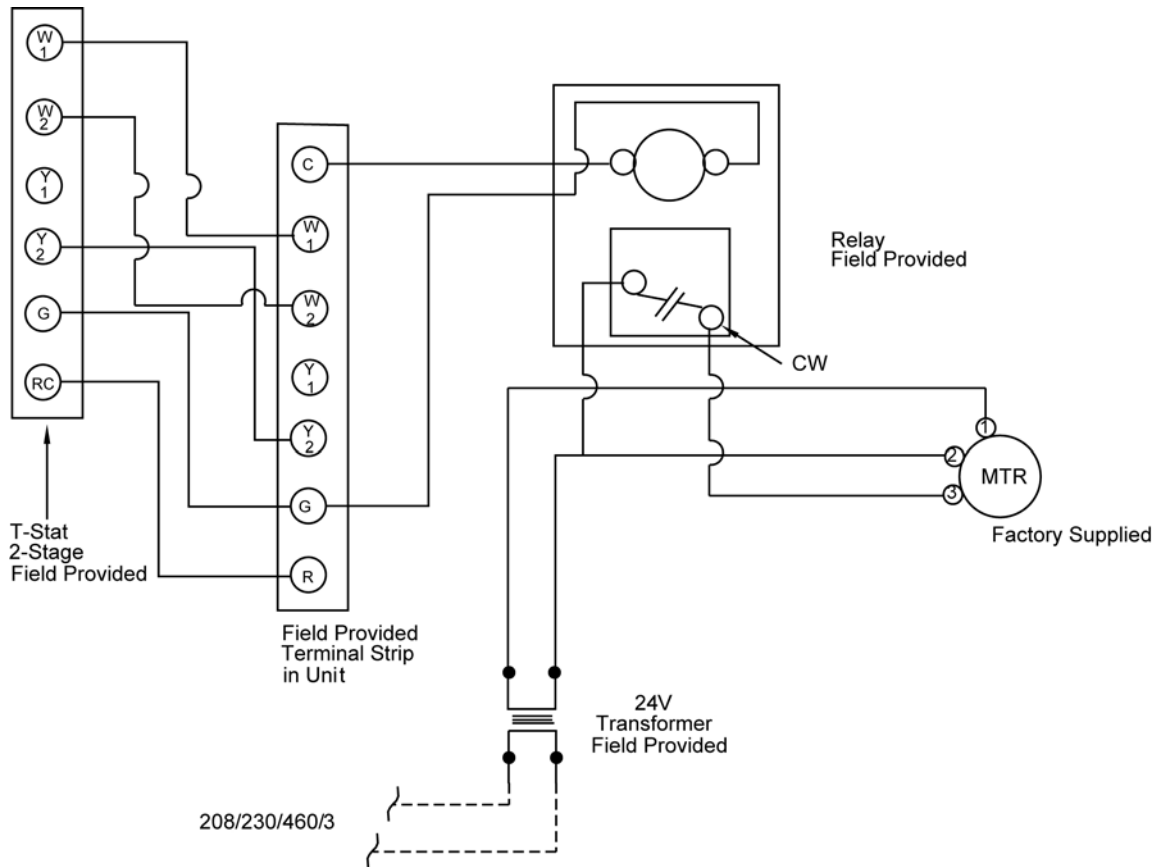

Figure 10. Wiring Diagram
10. Wire motor as shown in Figure 10.